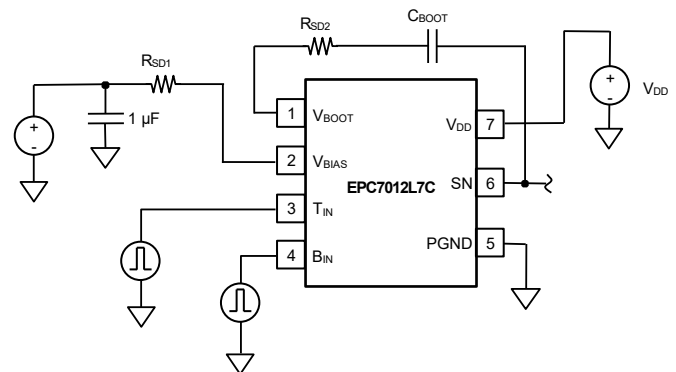

Figure 3. External Damping Resistor Connections
The EPC7012L7C is designed to be a high-speed power driver. As such it has extremely fast switching node (SN) rise and fall times by design. Fast rise and fall times can and will result in unwanted voltage spikes at the V_{DD} and PGND pins due to any parasitic layout inductance ($V_{SPIKE} = L_{Par} \cdot di / dt$). If these spikes cannot be reduced to an acceptable level through PCB optimization, two resistors may be added to provide the necessary damping to the local supply loop. These resistors, R_{SD1} and R_{SD2} are shown in Figure 3.